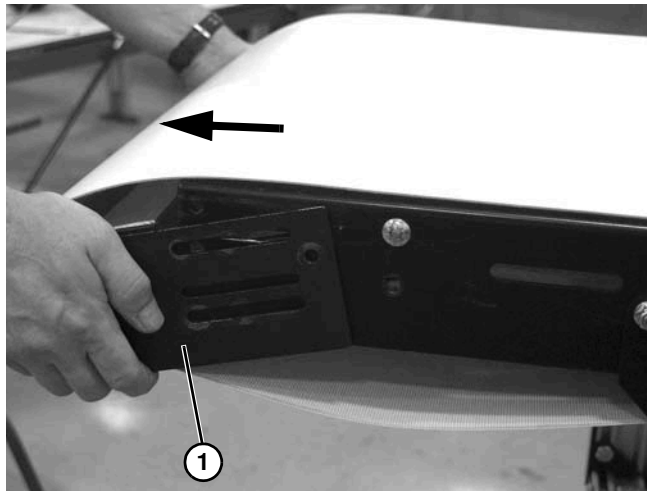
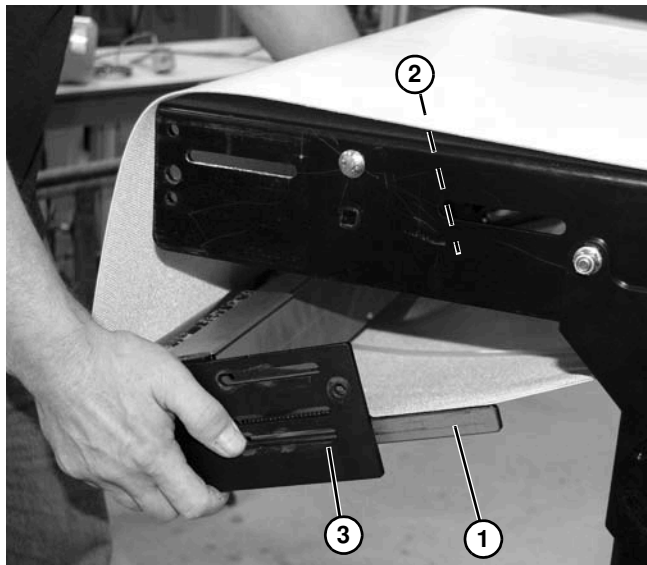

Figure 104
Figure 105
6. Pull tension tail end (**Figure 104, item 1**) outward to release tension tail plate (**Figure 105, item 1**) from slot (**Figure 105, item 2**) on conveyor frame, and remove tension tail end (**Figure 105, item 3**) from conveyor.